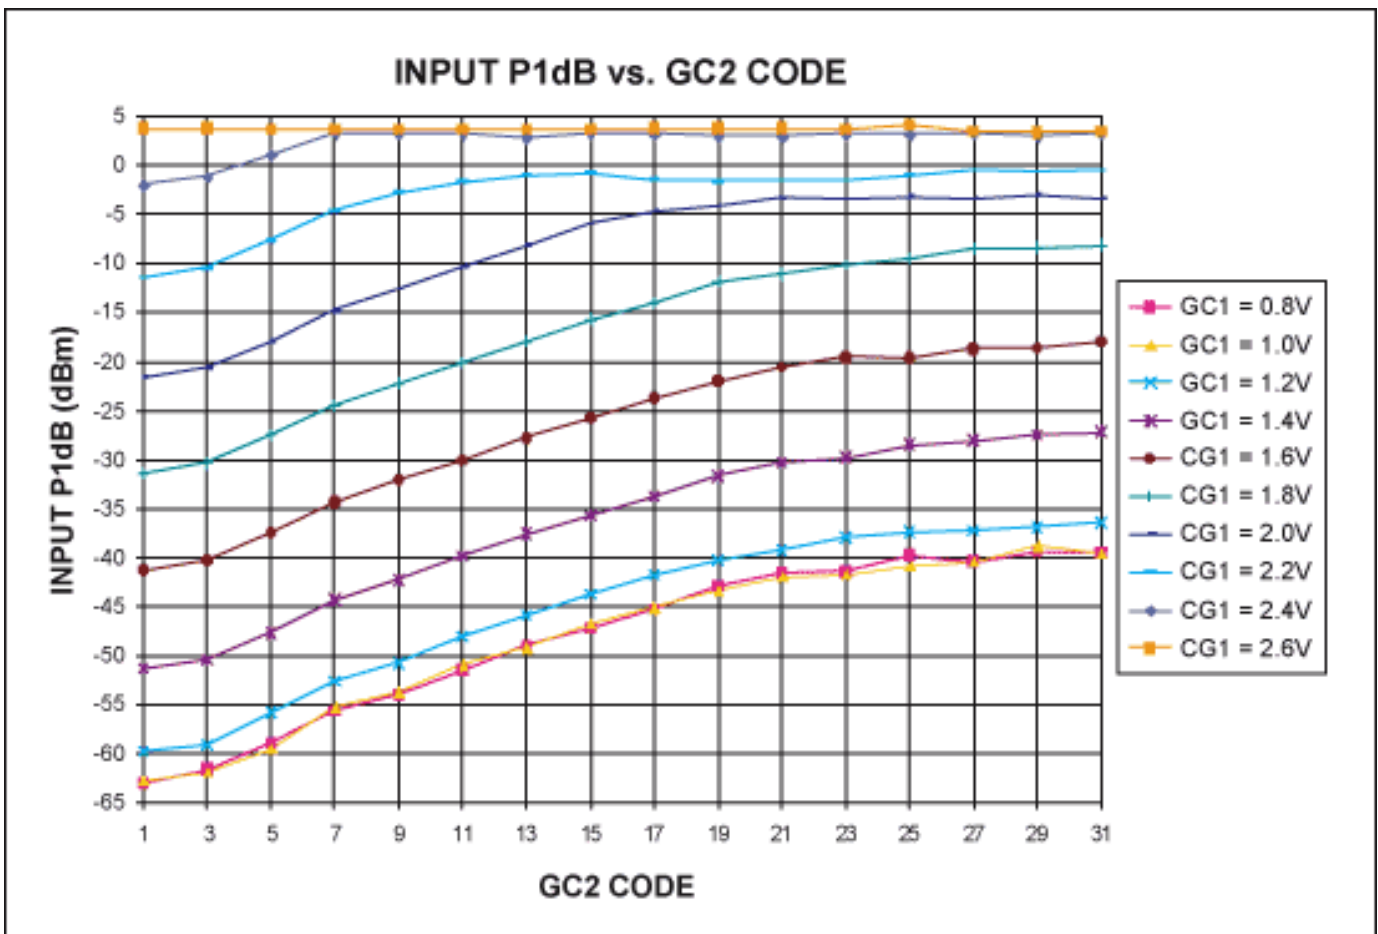
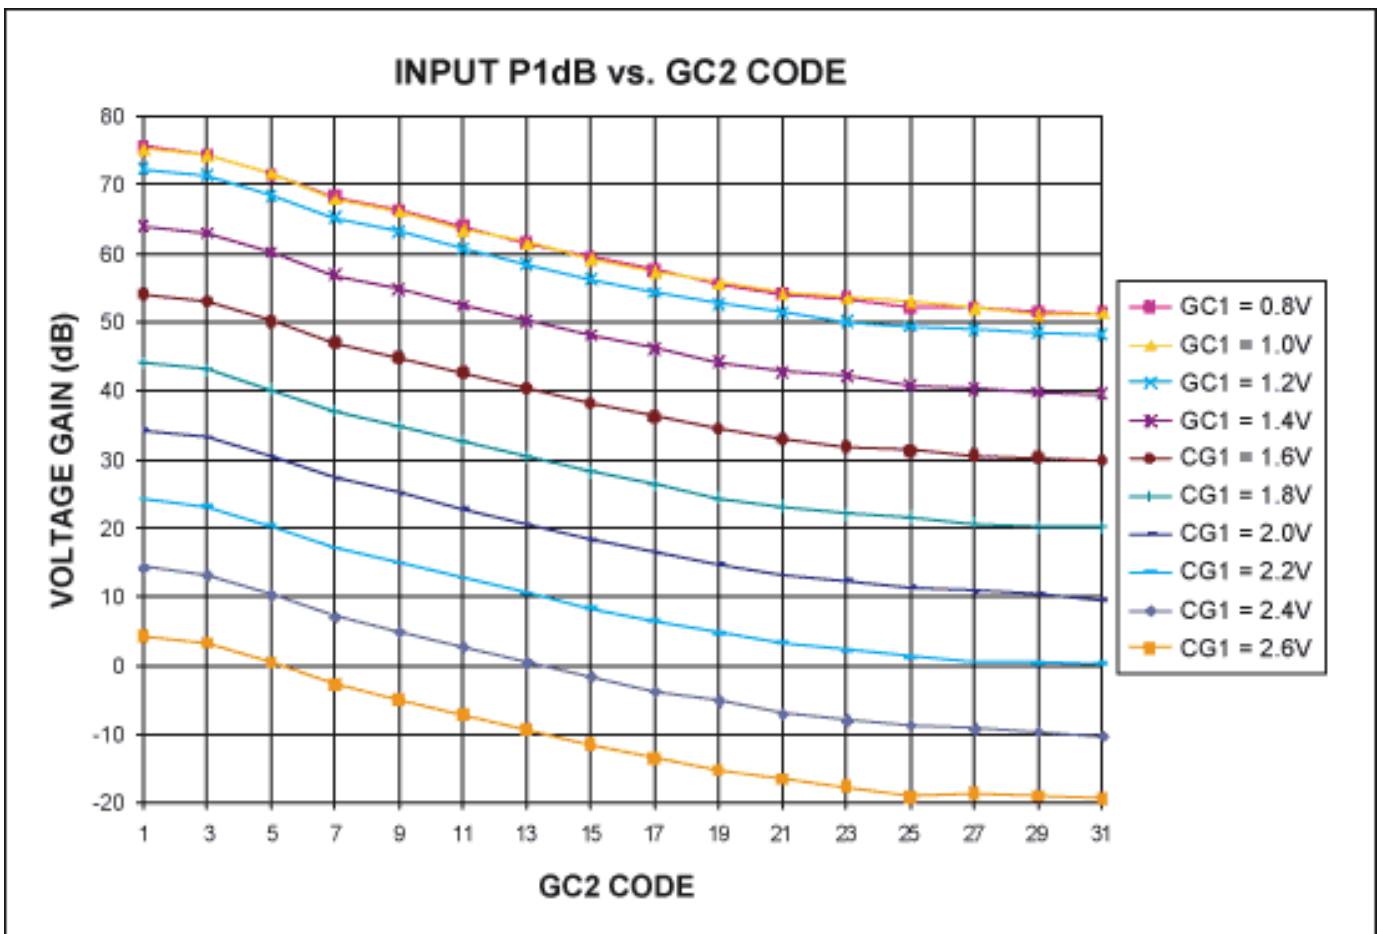

Figure 2. MAX2116 Input P_{1db} vs. GC2 Code
Figure 3. MAX2116 Voltage Gain vs. GC2 Code
Figure 2 shows the P_{1db} of the MAX2116 for different RF and baseband gain-control settings. The trend of increasing P_{1db} as the front-end and back-end gains decrease is evident, with the front-end impact dominating. The P_{1db} limit of about +3.5dBm is reached for any GC2 setting at a minimum front-end gain setting of 2.6V. The data in Figure 2 is measured with a midband CW RF input at 1550MHz, and an IF frequency of 5MHz.
Figure 3 shows the MAX2116 voltage gain at different gain-control settings corresponding to those shown in Figure 2. The maximum gain is 76dB, the GC1 range is 72dB, and the GC2 range is 22dB. Each of these is near the typical datasheet values.
- Download: File containing data for Figures 2 and 3